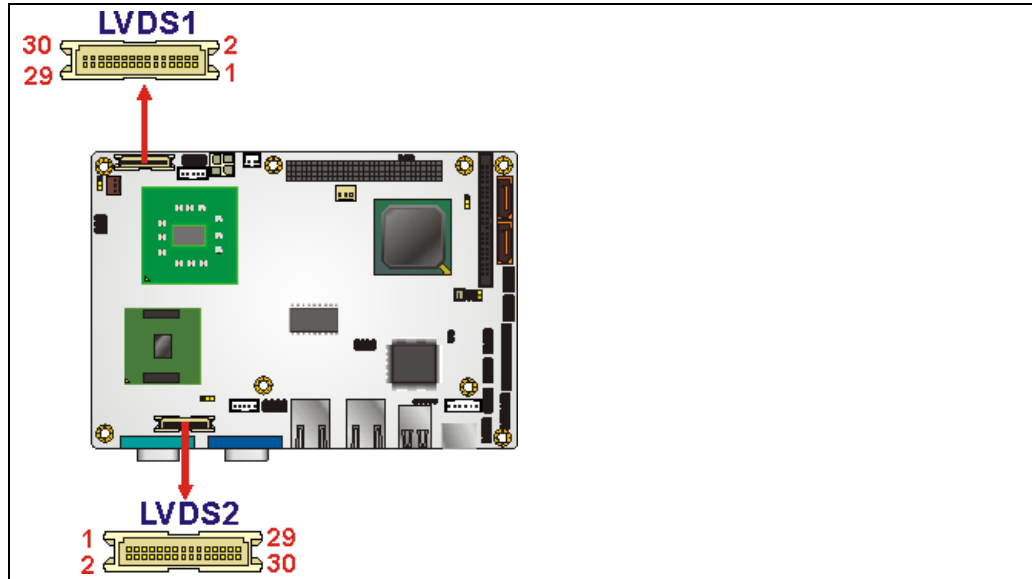

Figure 3-15: LVDS LCD Connector Pinout Locations
- CN Location:** See Figure 3-15